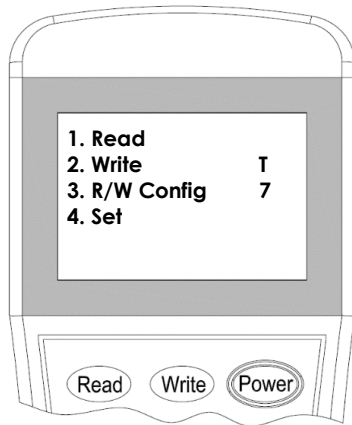

Figure 12
1. Switch-on the programmer, then press button “4” to enter to **Setting** mode (Figure 12).